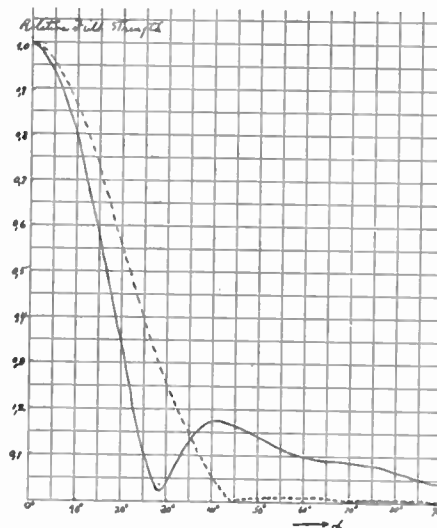

Fig. 3
For the second case the horizontal radiation pattern was calculated, by means of the equations stated above, for a segment of 6 vertical antennas separated by $d/2 = 3.75$ m from the reflector, whose diameter was $D = 82.5$ m. At $\alpha_0 = 5$ degrees the results by (9) are $a_1 = 7.2$ m; $a_2 = 21.36$ m; $a_3 = 34.84$ m, and by (10) $l_{12} = 1.25$ m; $l_{13} = 3.71$ m and the assistant-phases are for compensation in the direction $\alpha = 0$ degrees on account of (11), $\Phi_{12} = 22.5$ degrees; $\Phi_{13} = 66.8$ degrees. For equal amplitudes $A_1 = A_2 = A_3$, and for a medium wavelength $\lambda = 20$ meters, the compensated radiation pattern in relative field strength values is stated in Fig. 3 (drawn line). The intensity is obtained by squaring the values. The half power beam width is 24 degrees and the first side lobe is 15.3 db down from the peak.
If a greater beam width and lower gain is permitted, then the side lobes may be limited to approximately 30 db down from the peak. In Fig. 3 (dotted line) the relative field strength of an array, with a relation of the amplitudes $A_1:A_2:A_3 = 4:3:1$ is indicated. The half power beam width has increased to 32 degrees, consequently the side lobes have almost disappeared.